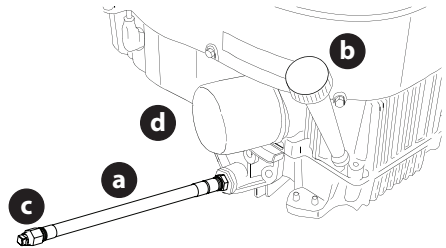

Fig. 30
1. Locate the oil drain hose (a) on the side of the engine (Fig. 30).
2. Place an appropriate oil collection container with at least a 2.5 quart (2.37 liter) capacity below the opening of the oil drain hose, to collect the used oil. Remove the oil fill cap/dipstick (b) from the oil fill tube (Fig. 30).
3. While holding the free end of the oil drain hose over the oil collection container, unscrew the square head hose plug (c) from the end of the oil drain hose (Fig. 30). Drain the engine oil into the collection container.
5. Remove the oil filter (d) and drain into the collection container (Fig. 30).
6. Replace the oil filter (d) and refill the engine with new oil as instructed in the Engine Operator's Manual (Fig. 30).